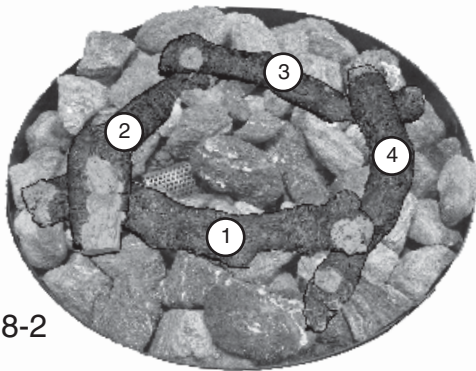

Fig. 18-2
2. Lay an end of Log #3 over the unattached end of Log #2 at a 90-degree angle (see Fig. 18-2).
3. Place one end of Log #4 over the open end of Log #3 and the other end underneath the open end of Log #1, creating a kind of square (see Fig. 18-2).